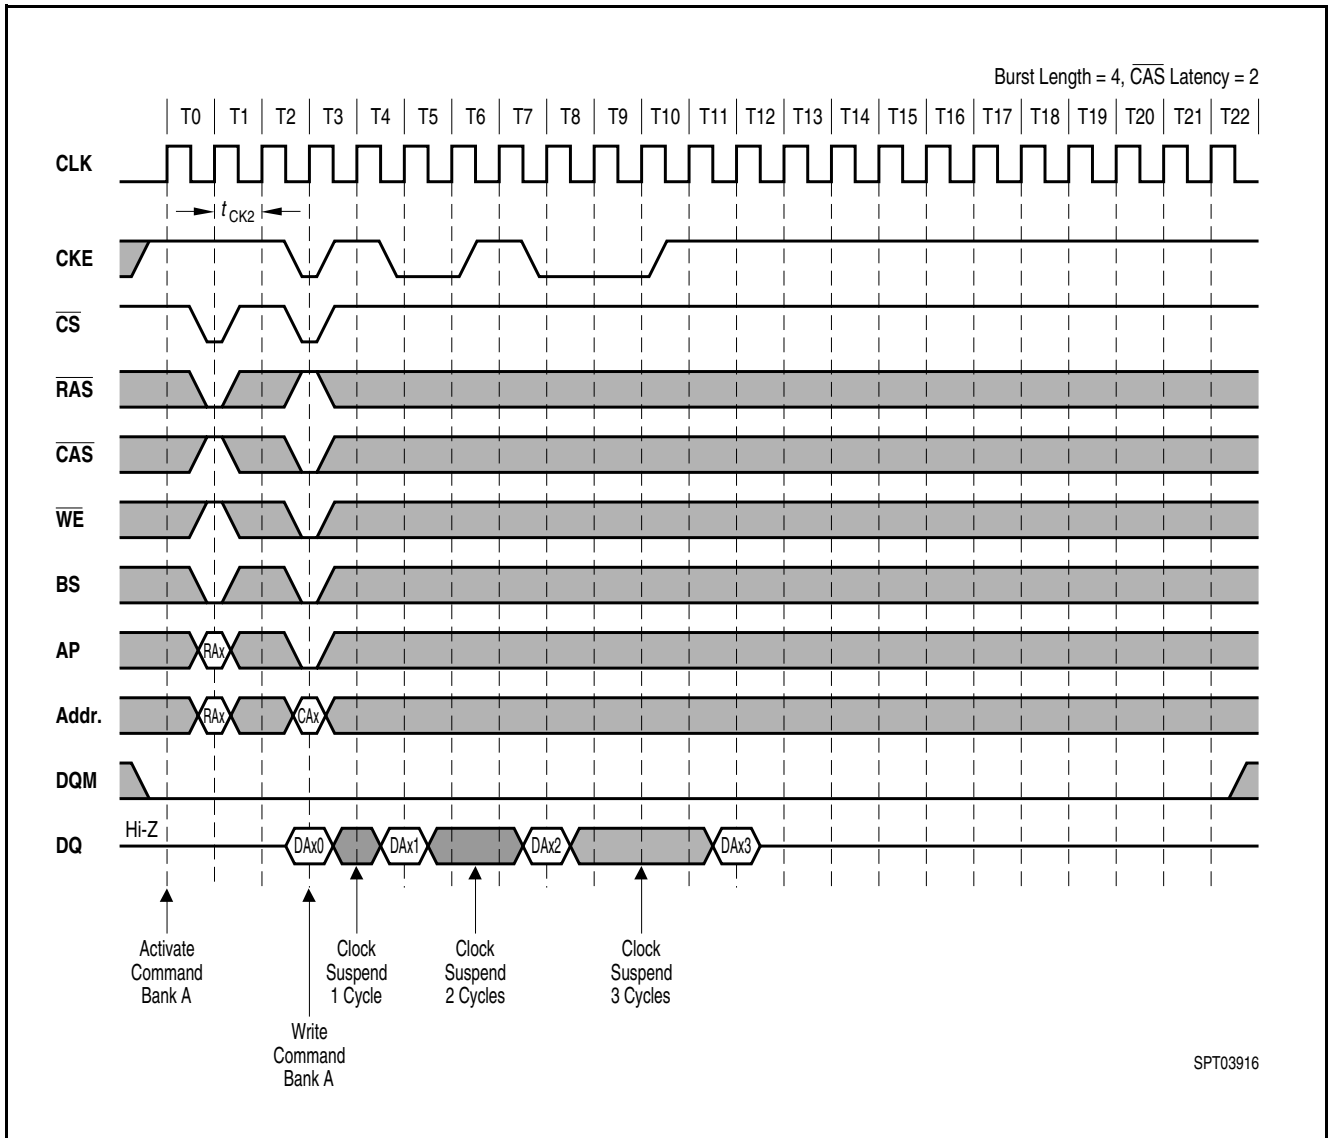

Figure 22 Clock Suspension During Burst Write CAS Latency = 2
- **Figure 22** Clock Suspension During Burst Write CAS Latency = 2